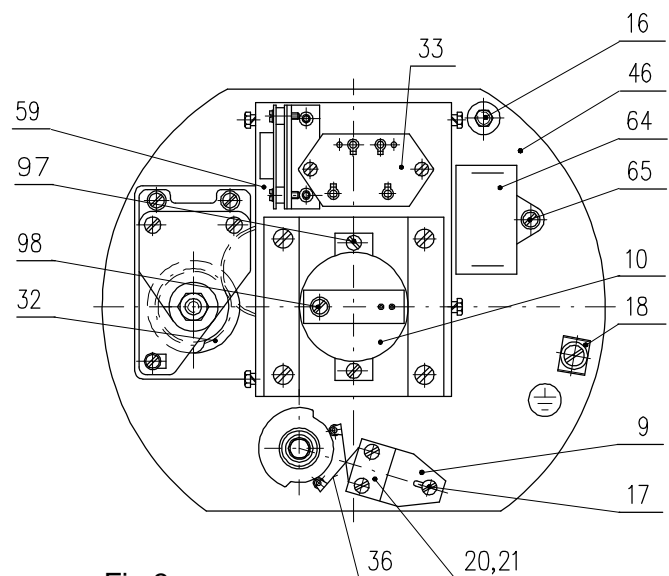

Fig.3
Switch element (9) (Fig.3) is formed by two micro-switches S1 and S2. It is put into operation after loosening of the nut (17).
The actuator is equipped with two parallel space heaters (16) (Fig. 3) with total power output 20W. Connection of the space heaters is conditional by operation environment.
It changes rotary movement of the output shaft (3)(Fig.3) to linear movement of output spindle (83). The bronze joint nut with a trapezoidal thread is put into teeth of the output shaft (3). The frame (85) limits rotation of the output shaft(83) and function to indicate position. Pointers (86) "O" (open) or "Z" (closed) indicate position and they are fixed on actuators supporting columns(87).